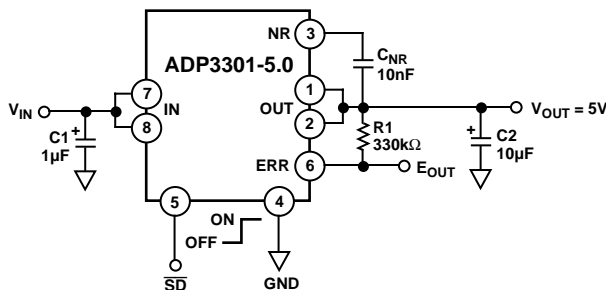

Figure 20. Noise Reduction Circuit
A noise reduction capacitor ( $C_{\text{NR}}$ ) can be used to further reduce the noise by 6 dB–10 dB (Figure 20). Low leakage capacitors in the 10 nF–100 nF range provide the best performance. Since the noise reduction pin (NR) is internally connected to a high impedance node, any connection to this node should be carefully done to avoid noise pickup from external sources. The pad connected to this pin should be as small as possible. Long PC board traces are not recommended.